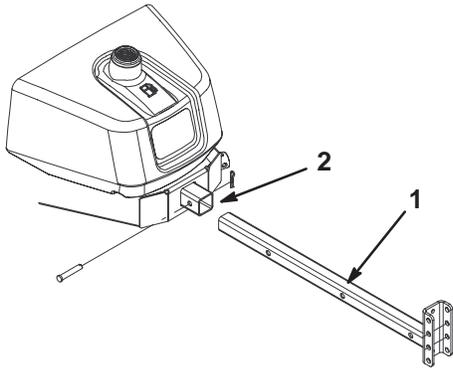

Figure 6
4. Insert hitch tube into frame tube (Fig. 6). Secure tube to frame with a clevis pin and hair pin cotter.